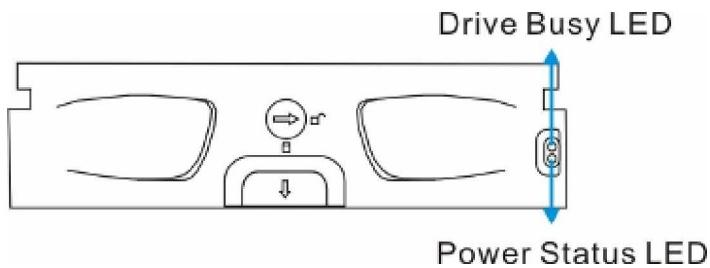

Figure 3-2: Drive Tray LEDs
Two (2) LED indicators are located on the right side of each drive tray. (See *Figure 3-2*) Refer to *Table 3-3* for the LED definitions. When notified by a drive failure message, you should check the drive tray indicators to find the correct location of the failed drive. Replacing the wrong drive can fatally fail a logical array.